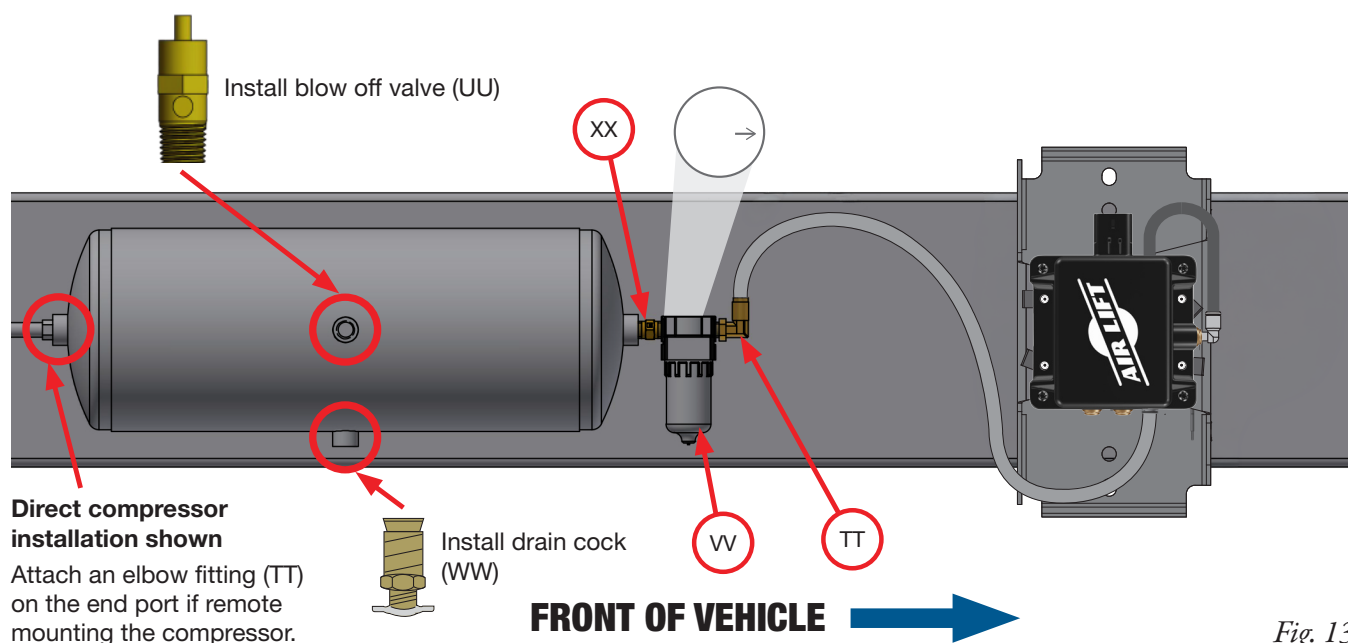

Fig. 13
1. Know which direction you plan to mount the tank with respect to the other components before starting to install the necessary fittings for proper setup (Figs. 13 & 16).
2. Install the drain cock (WW) into the tank port that is meant to point to the ground (Fig. 13). Apply sealant tape and install 1 1/2-2 turns beyond finger-tight.
3. Install the blow off valve (UU) across the belly of the tank using one of the other (2) available ports and tighten 1 1/2 turns beyond finger-tight (Fig. 13).
4. Install a 1/4" MNPT X 1/4" PTC elbow fitting (TT) to the last of the belly ports (Fig. 13). This will be used for manual fill port later in this manual.
5. Install a 1/4" hex nipple (XX) from the tank to the filter (VV) and then install an elbow fitting (TT) from the filter to the end port facing the manifold/EZ Mount assembly (Fig. 13). Apply sealant tape and install 1 1/2-2 turns beyond finger-tight. Ensure the arrow on top of the filter points to the EZ Mount.
6. If the compressor leader line cannot reach the tank so it can be directly installed, install an elbow fitting (TT) on the last end port (Fig. 13). Apply sealant tape and install 1 1/2 -2 turns beyond finger-tight.